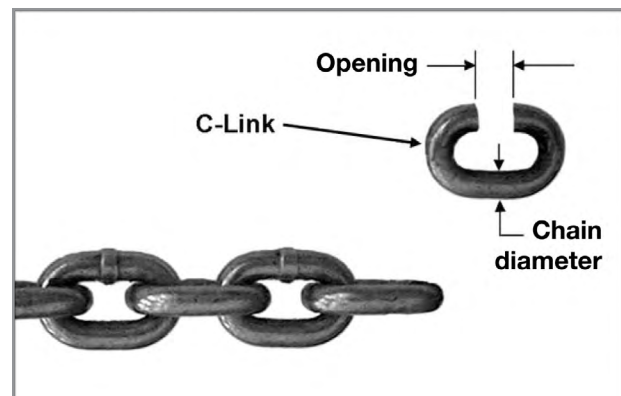

Figure 14
7. Check that the chain is not twisted at the bottom hook. All welds should face the same direction (see Figure 14). For hoists with two or more falls of chain, make sure the bottom hook is not turned over. This may cause the chain to twist.
2. Cut the weld from the link leaving an opening approximately 1.25 times the diameter of the link material. See Figure 14.